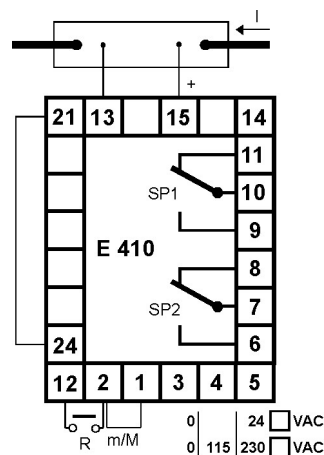

Fig.4
- **E 410A**: misura mediante shunt (60mV): pin 15-13 (+ su pin 15), eseguire il cavallotto 21-24 (fig.4).
- **E 410A**: it measures by means of a shunt (60mV): pin 15-13 (+ on pin 15), make the jumper link 21-24 (fig.4).